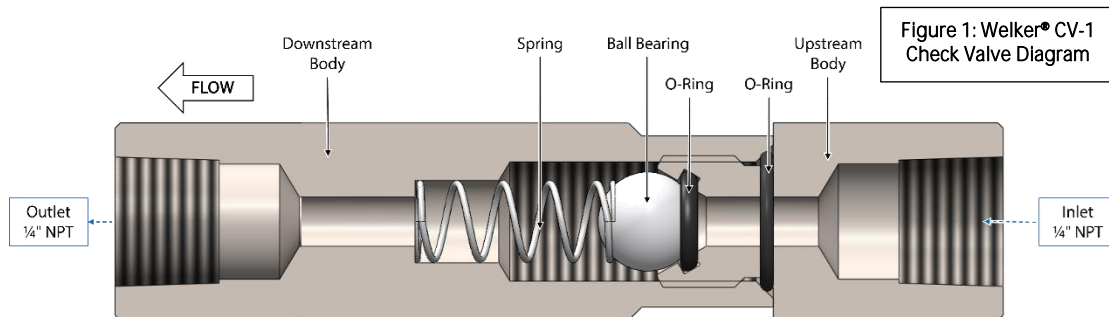

Figure 1: Welker® CV-1 Check Valve Diagram
3. Install the inlet in the upstream direction (see *Flow direction in Figure 1*).
3. Unscrew the upstream body from the downstream body (*Figure 1*).
4. Remove the ball bearing (*Figure 1*).
5. Remove the spring (*Figure 1*).
6. Replace the O-rings on the upstream body (*Figure 1*).
10. Place the ball bearing in the downstream body and on top of the spring (*Figure 1*).